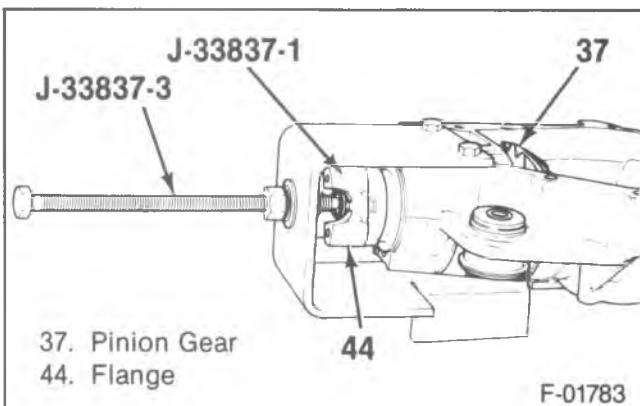

Figure 74—Removing the Flange
20. Pinion flange nut (46) and washer (45) using J-8614-01.
21. Flange (44) and deflector (43) using J-33837-1 and J-33837-3 (figure 74).
22. Pinion (37), spacer (40), pinion bearing (39) and shim (38).